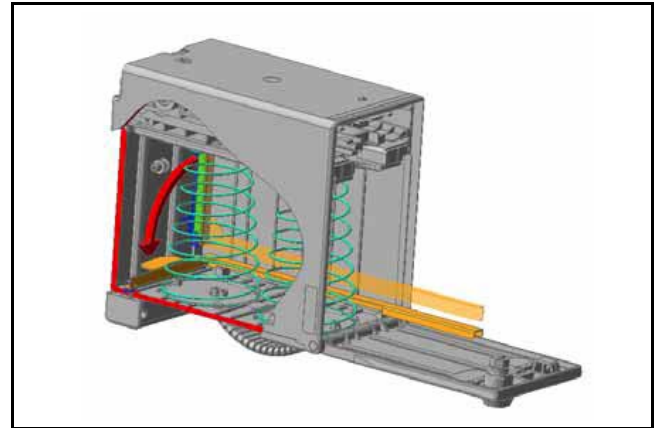

Figure 2 - Installing the L Bracket Tool into the UBA Cash Box
2. Slide the L Bracket Tool down the side of the UBA Cash Box (**Figure 2**).